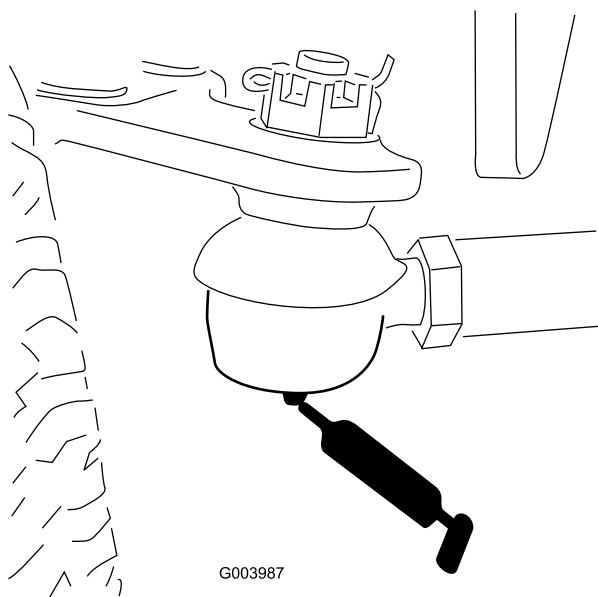

Figure 31
- Rear axle tie rod (2) (Figure 31)